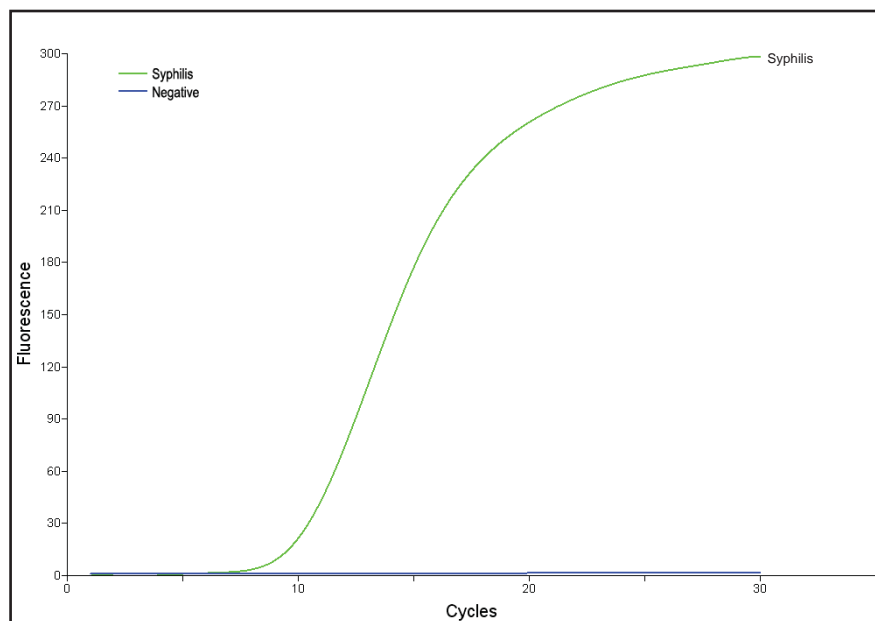

Figure 1. Real-time PCR result for *T. pallidum pallidum* (Syphilis).
9. Example of real-time graph is depicted in Figure 1